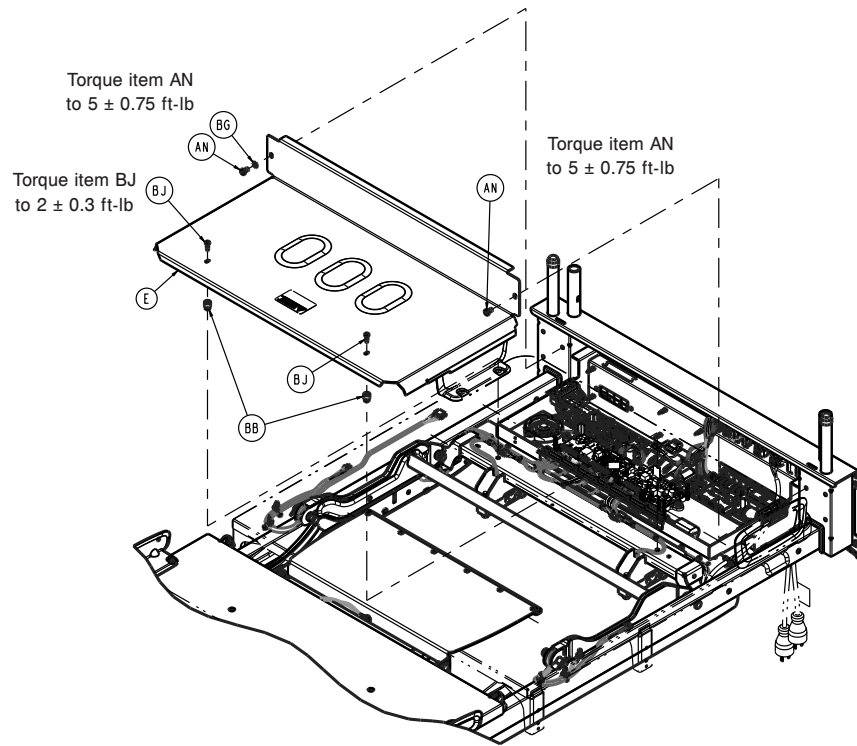

Figure 13 – Removing the cover
7. Using a T25 Torx driver, remove the two screws (BJ) that secure the litter electronics box cover (E) to the electronics box assembly (Figure 13). Save the screws.
8. Using a T30 Torx driver, remove the two screws (AN) that secure the litter electronics box cover (E) to the electronics box assembly and remove the cover (Figure 13). Save the screws and cover.
6. Using a T25 Torx driver, remove the two screws (BJ) that secure the litter electronics box cover (E) to the electronics box assembly (Figure 13). Save the screws.
7. Using a T30 Torx driver, remove the two screws (AN) that secure the litter electronics box cover (E) to the electronics box assembly (Figure 13). Save the screws and cover.
8. Using a T30 Torx driver, remove the two screws (AN) that secure the litter electronics box cover (E) to the electronics box assembly (Figure 13). Save the screws and cover.